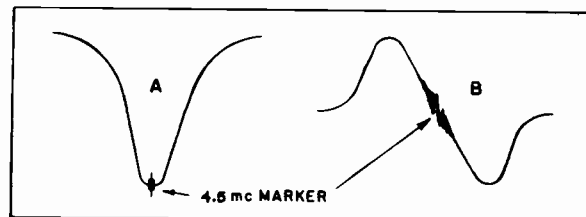

Fig. 23. Audio I-F Curve
4. T401 is adjusted for maximum amplitude and symmetry of the response curve about 4.5 mc marker as shown in Fig. 23-A.
5. The secondary of T402 is adjusted for the curve of Figure 23-B. This adjustment should give as straight a slope as possible between the positive and negative peaks of the curve with the center of the 4.5 mc marker falling midway between the peaks.